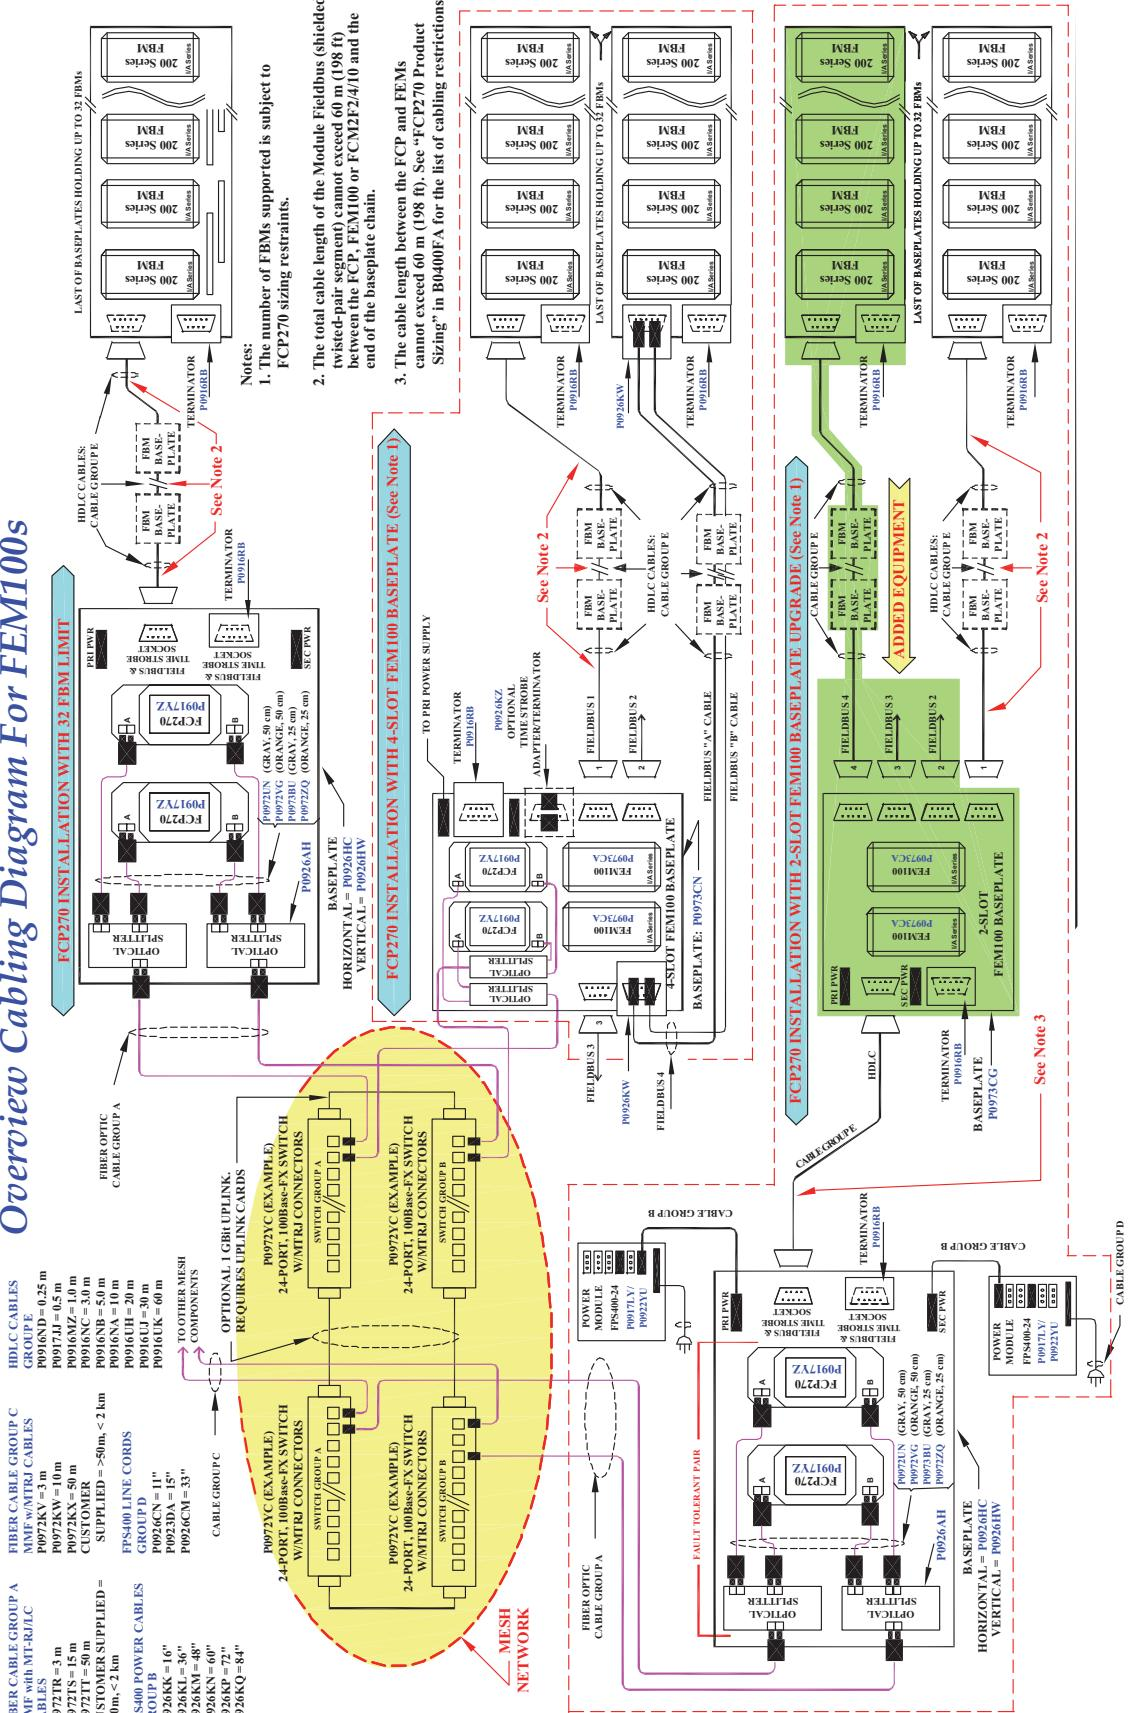

Figure B-1. Overview for FCP270-to-FEM100 Cabling
- ◆ Figure B-1 “Overview for FCP270-to-FEM100 Cabling” on page 94